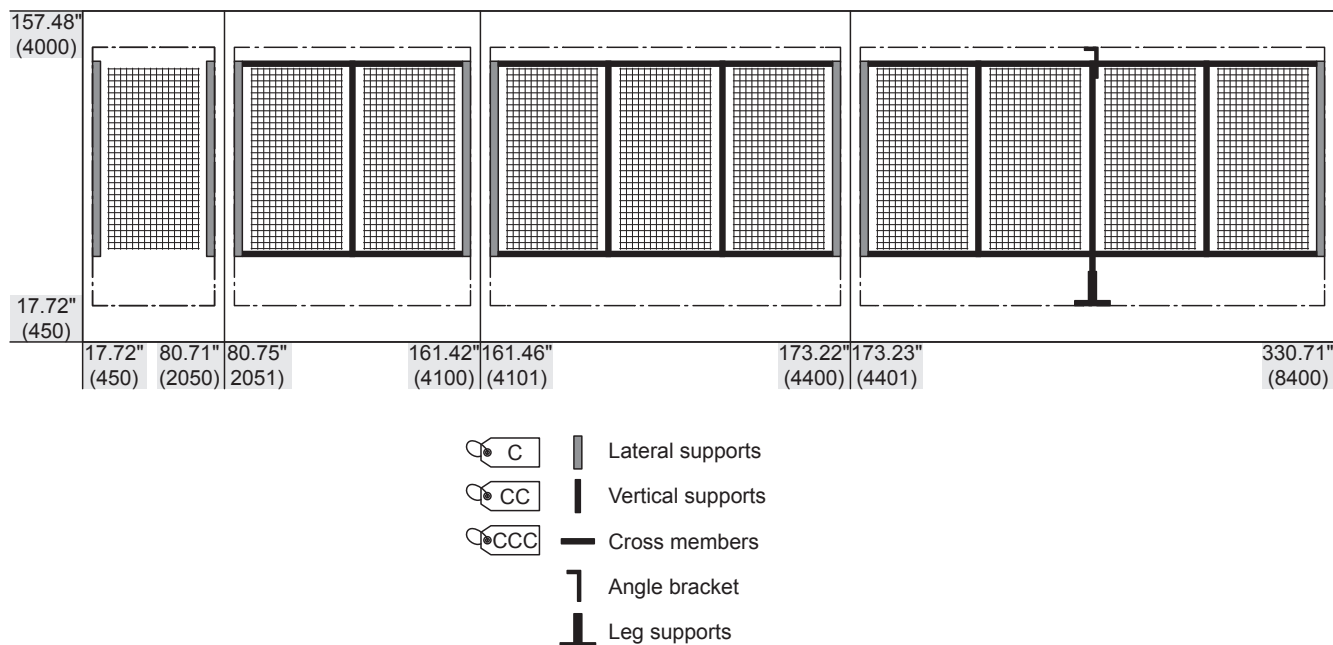

Fig. 28: Overview frame constructions nozzle system - AHU inner dimensions in Inch (mm)
- Mark the horizontal position(s) of the vertical support(s) on the cross members. If there is only one vertical support, position it in the centre; if there are several vertical supports, position them evenly across the width (see Fig. 28).